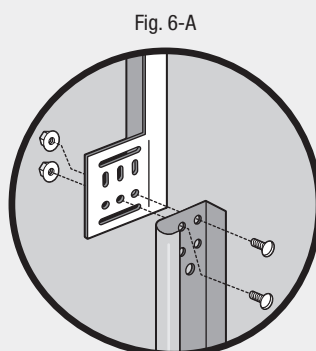

Fig. 6-A
- Align top two holes on each track with two inner holes on bottom of flag brackets and loosely attach using (2) 1/4"-20 x 9/16" track bolts and 1/4" flange nuts. The head of the bolts should face the inside of the track (Fig. 6-A).